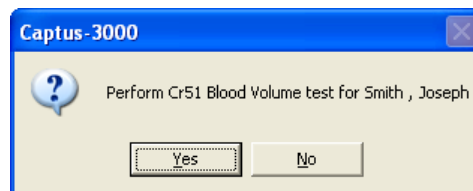

Figure 10-56
- Click the **Start Procedure** button or press *Alt+S* to begin the test. Figure 10-56 will appear confirming the selected patient. To cancel the test or if the incorrect patient was selected, click the **No** button to return to Figure 10-49, otherwise click **Yes** to continue.